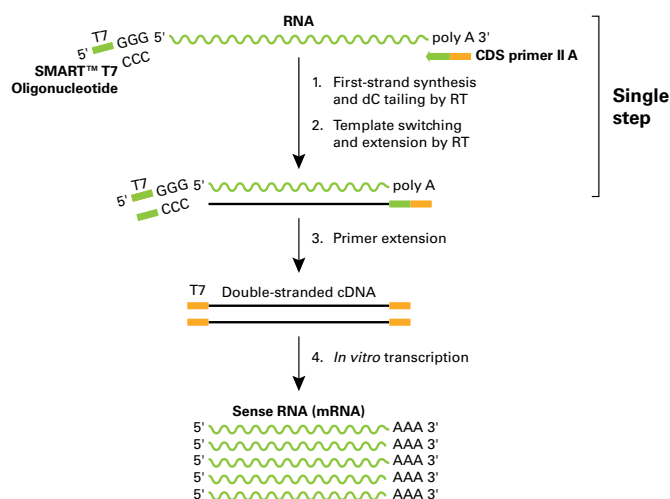

Figure 1. The SMART mRNA amplification protocol.
First-strand cDNA synthesis is primed by a modified oligo(dT) primer (the CDS Primer II A) that contains additional sequence at the 3' end (Figure 1). When the MMLV RT reaches the 5' end of the mRNA, the enzyme's terminal transferase activity attaches several additional nucleotides, primarily deoxycytidine, onto the newly synthesized strand of cDNA. The SMART T7 oligonucleotide, which contains the T7 RNA polymerase promoter, pairs with the extended dC-rich cDNA tail to create an extended template that the RT enzyme can switch to (1). The resulting full-length, single-stranded cDNA contains 5' end sequences that are complementary to the SMART T7 oligonucleotide.